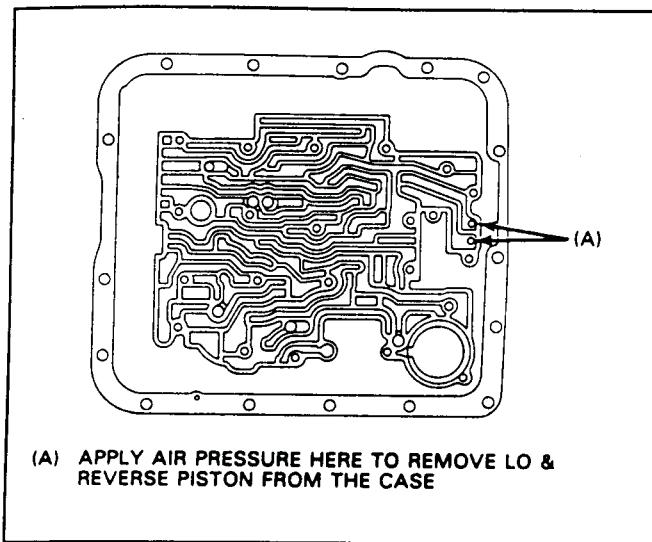

Figure 72
5. Remove the lo/reverse piston and seals by blowing compressed air into the lo/reverse apply passage (See Figure 72).